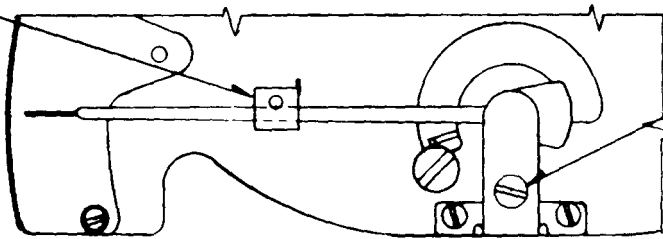

FIGURE 8A
The spring tension on the demand pointer is adjusted by using test weight Style No. 284A400G01 in the following manner. See Figure 8A and 8B.
2. Mount test weight to demand pointer and locate the right hand edge of weight with the vertical line as shown in Figure 8A. The pointer should slip down scale to a lower reading. (If pointer does not fall then turn counterclockwise on the torque adjusting screw until pointer does fall). This insures that the slip torque is below the maximum allowable.
The clutch on the (6) shaft can be given a two to one safety check by positioning the test weight as shown in Figure 8a. If by turning the first (1) shaft in the register the pusher will rotate the demand pointer and advance the test weight through the horizontal, then the clutch has at least a two to one safety factor.